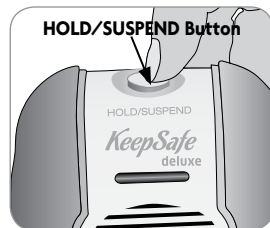

Fig. 7
1. Press HOLD/SUSPEND button on the top of alarm (fig. 7) for 1 second.